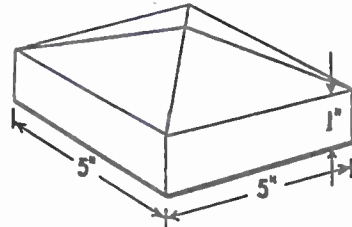

Fig. 5
The pieces (F) and (G) are now assembled and nailed across the top of the uprights (E). Coat them with creosote before nailing in position. Finally shape the caps from 2 ins. thick blocks as shown in Fig. 5. A mortise should be cut in the underside to fit the tenon on the top of the posts. Do not forget the drip grooves on the underside of the caps.